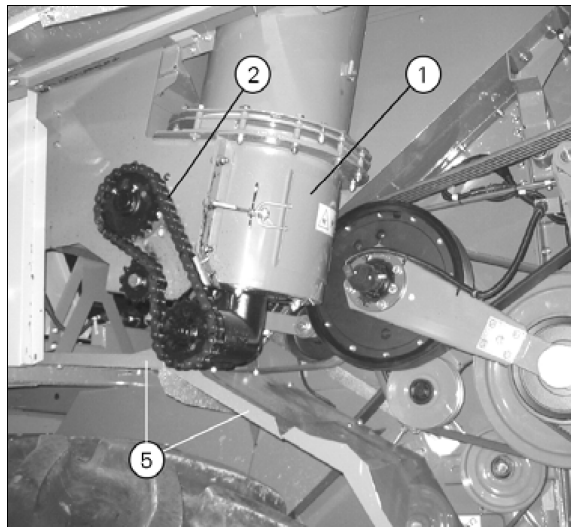

Fig. 13.
3. Turn the vertical auger into position as shown at (A). Make sure that the auger cannot slide out by inserting a wooden block between the auger flight and the outer flange in the auger tube.
5. Dismount the guard (fig. 13).